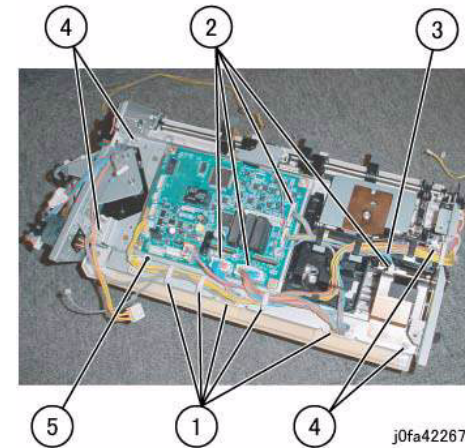

Figure 2 Moving the Bottom Plate
9. Remove the Bottom Plate (Figure 2):